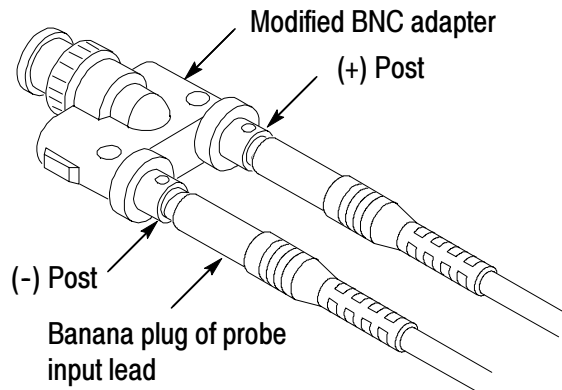

Figure 13: Slide probe leads onto the binding posts
10. Attach the differential probe input leads (without attachment accessories) by sliding the banana plug of the leads onto the binding posts metal sleeves on the Modified BNC adapter (see Figure 13).
2. Attach the differential probe input leads (without attachment accessories) by sliding the banana plug of the leads onto the binding posts metal sleeves on the Modified BNC adapter (see Figure 13 on page 31).